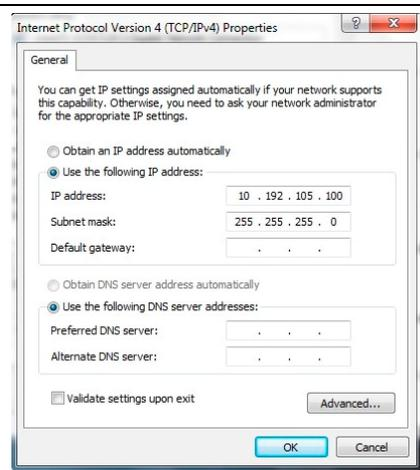

Figure 3-26 TCP/IP Properties
- Enter IP address **10.192.105.100** and subnet mask **255.255.255.0**, Figure 3-26